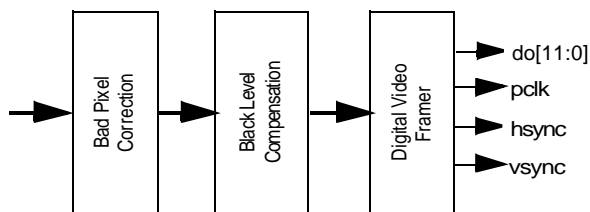

Figure 10: Digital Pixel Processing.
- compensate black level, before being framed and presented on the digital output port. (see Figure 10).